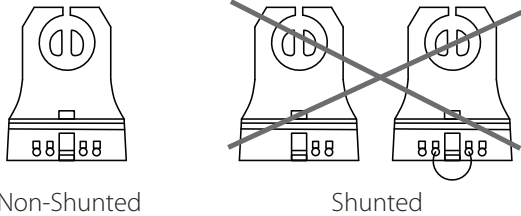

Fig: 6
2. If applicable, replace lamp holders at power end with non-shunted lamp holders (Fig.6).